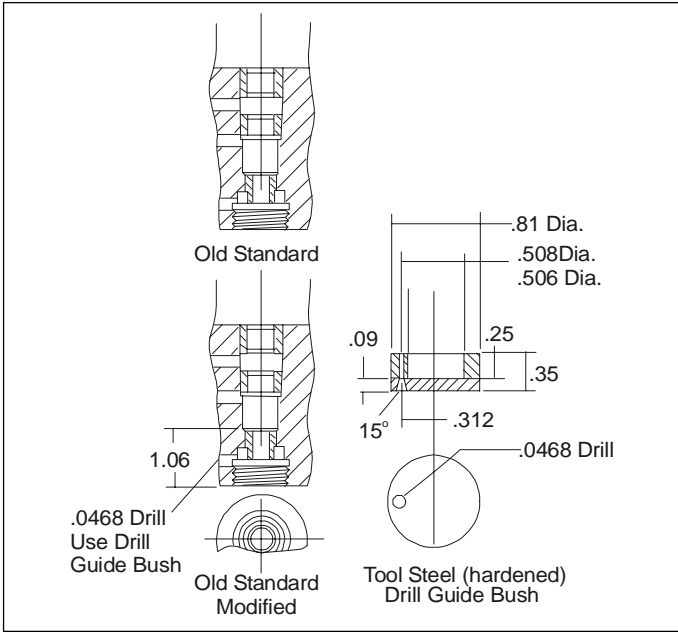

Figure 4 - Drill Jig (Drawing G-917)
- 7.4 A drill jig, as shown on Drawing G-917, which is used when required for modification of the diaphragm bush of the "B-1" Quick Service Valve Portion. See Figure 4.
(Figure 4)